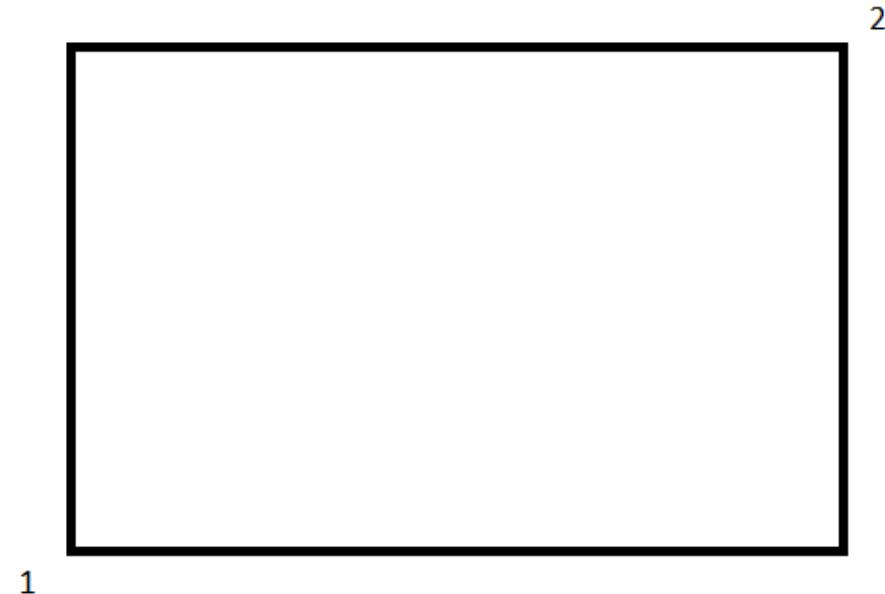

Figure 45: Grating points
**Set Grating Parameter** We can choose the position of the grating using this button. First, we have to insert the X position of our first point. Then we have to enter the Y position and the Z position. After we inserted our first point, we have to insert the second point. The first and second point are in order, the bottom left and upper right corners of the grating. This is visualized in Figure 45.